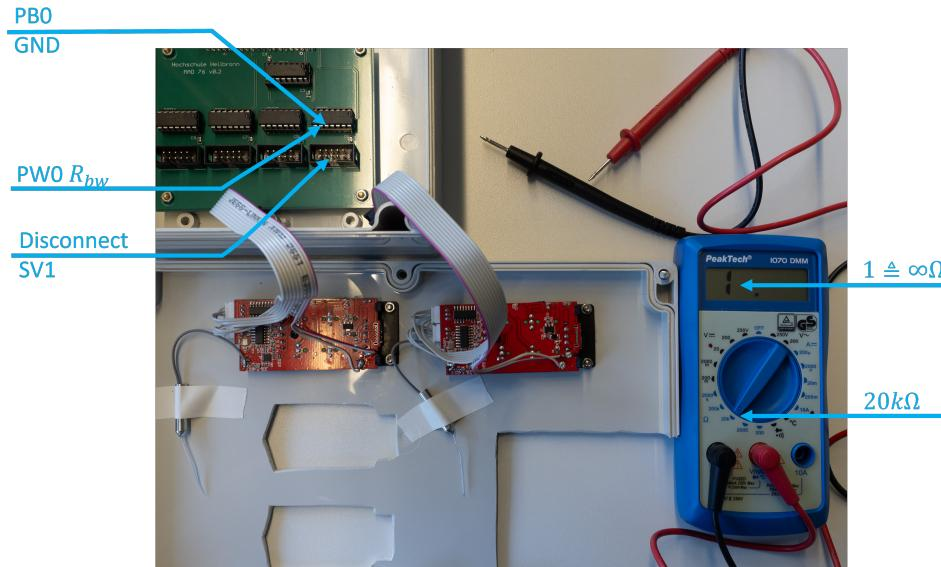

Figure 4: Exercise 1: Measure R_{bw} with a multimeter
1. Measure the resistance values R_{bw} of the digital potis of RC 1 with a multimeter (see Figure 4)